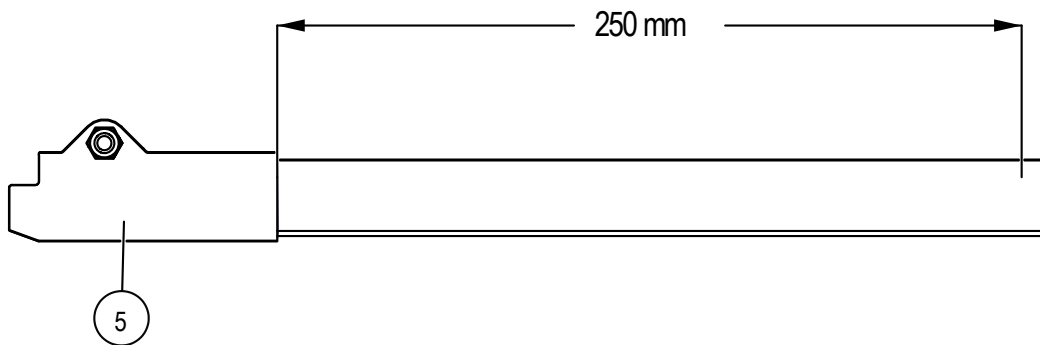

Fig. 18: Measure distance for anchor point hole
- From the rear edge of the end cap (Pos. 5), measure 250 mm on the insulating profile and mark the distance with a pen (e.g. red or white) (see Fig. 18).